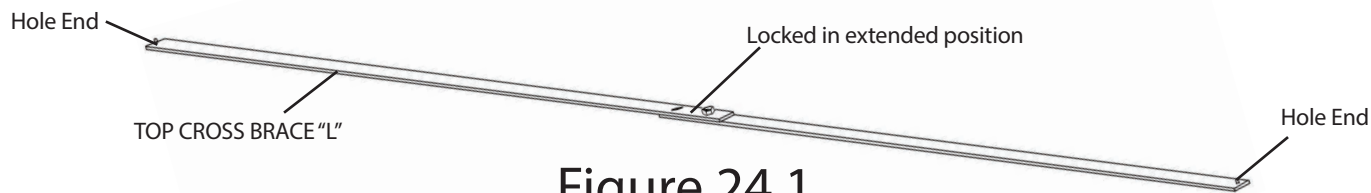

Figure 24.1
STEP 16: Locate the (3) TOP CROSS BRACES "L". Begin by unfolding the (3) TOP CROSS BRACES "L" and locking them in their extended position, as illustrated in Figure 24.1.